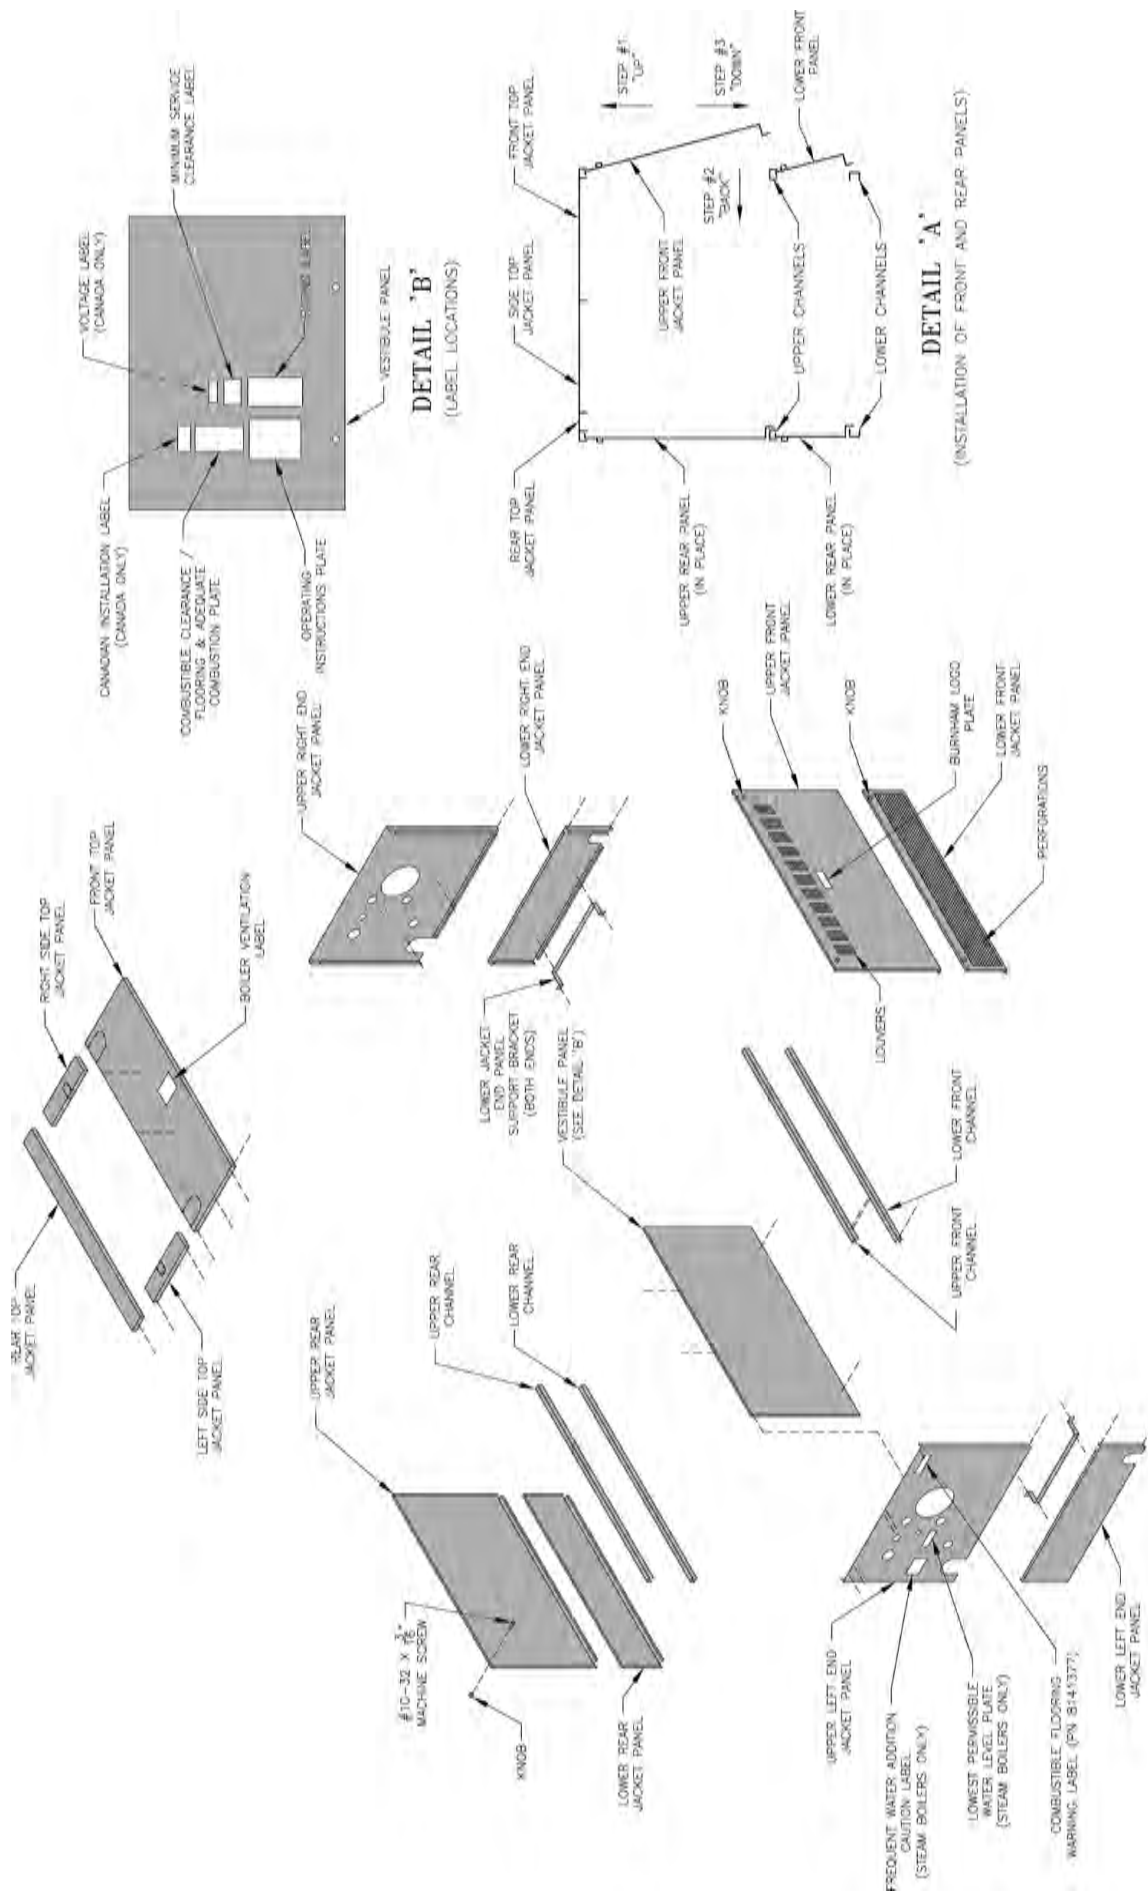

FIG. 19
- a. 6 thru 10 section boilers – Paragraph 16, Fig. 19
19. ATTACH REAR TOP JACKET PANEL TO UPPER END PANELS using #8 SMS. Refer to Fig. 19.
27. INSTALL THE FOLLOWING PLATES OR LABELS which are found in the Instruction Envelope. See Fig. 19 or 22 for location.
- a. Install Vestibule Panel(s) – refer to Fig. 19 and 22. Attach Hex Couplings to end of Carriage Bolts which secure Flue Cover Plates.